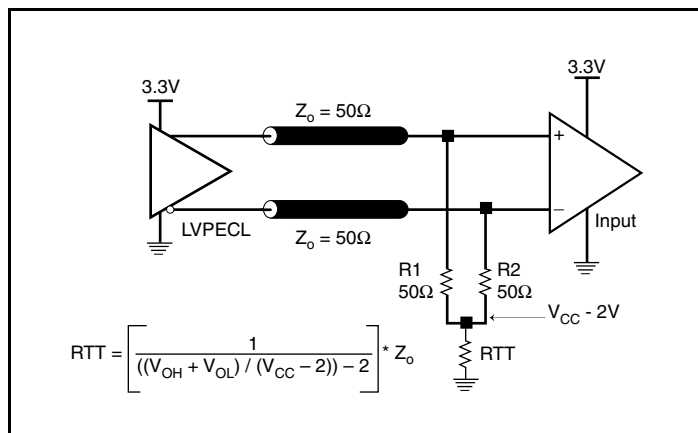

**Figure 1A. 3.3V LVPECL Output Termination**
*Figures 1A and 1B* show two different layouts which are recommended only as guidelines. Other suitable clock layouts may exist and it would be recommended that the board designers simulate to guarantee compatibility across all printed circuit and clock component process variations.